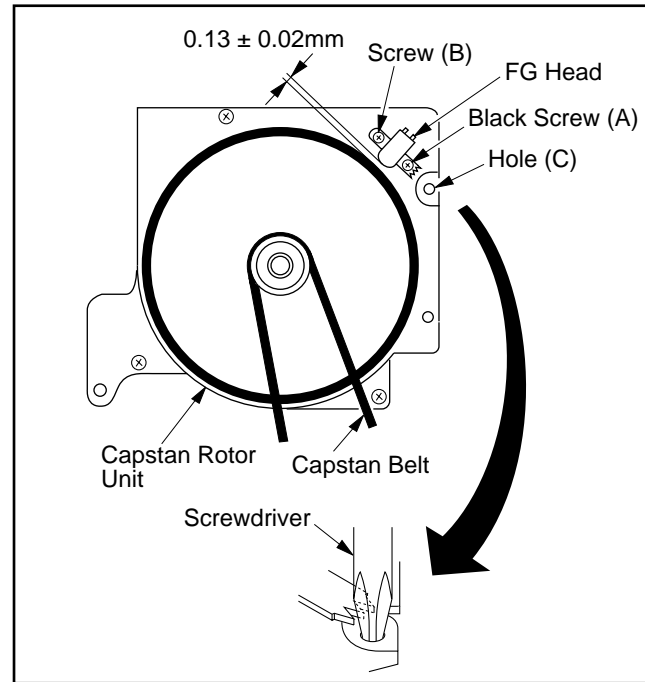

Fig. M18
3. Slightly loosen Black Screw (A) and Screw (B). Then set the Screwdriver (#1 or #2 Phillips Driver) into the Hole (C) shown in Fig. M18. Turn the screwdriver counterclockwise until the FG Head touches the rotor. Then turn it slightly clockwise to the clearance as specified.
4. Tighten Black Screw (A) and Screw (B) shown in Fig. M18.
5. Reinstall the VCR Main C.B.A.Fig. M18
1. Remove the Capstan Belt (Fig. M18).